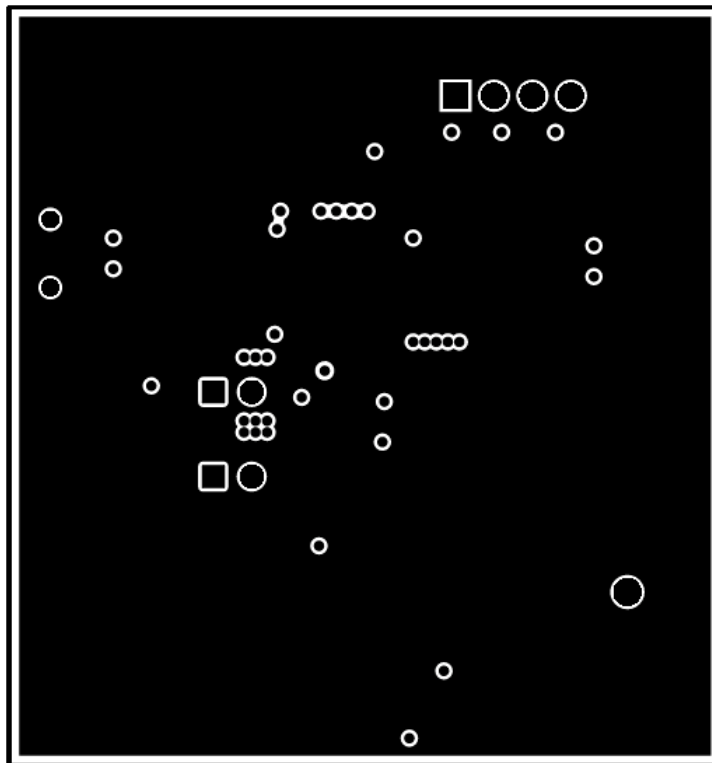
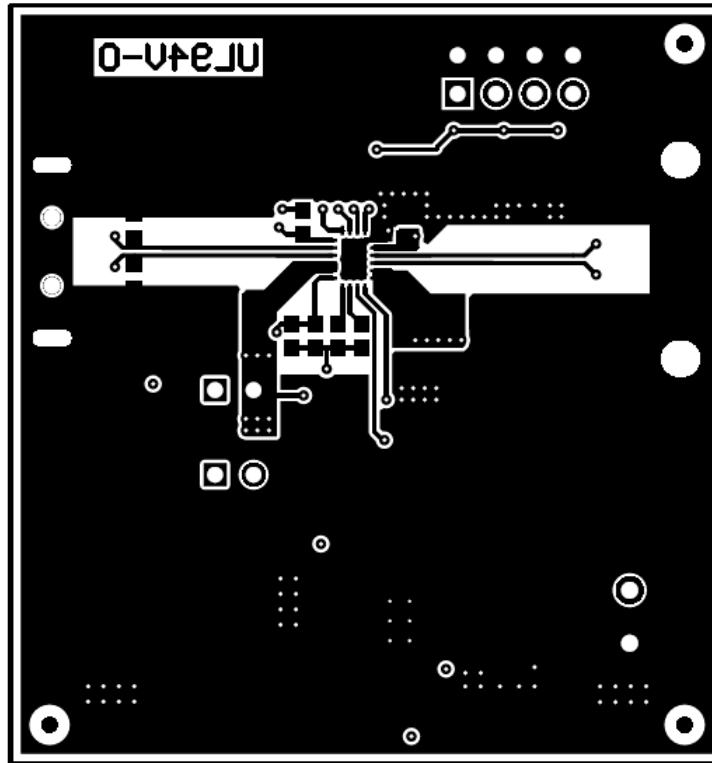

Figure 6. Layer Three Routing
Figure 7. Bottom Side Routing
- DP-OUT/DM-OUT, DP-IN/DM-IN traces: Route these traces as controlled impedance differential pairs per the USB-2.0 specification. Minimize the use of vias in the high-speed data lines. Figure 7 provides a good signal routing example for the high-speed data traces. In this example, the data pairs are routed as edge-coupled microstrips with nominal differential impedance of 90 Ω . The reference plane is tied to GND and is shown in Figure 6. Ensure that the reference plane is void of cuts or splits above the differential pairs to prevent impedance discontinuities.